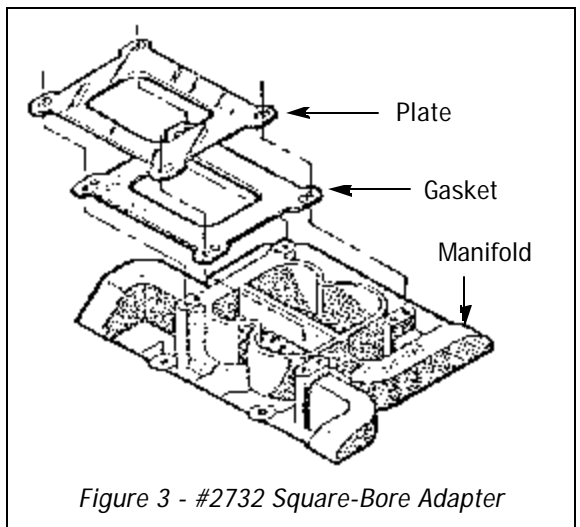

Figure 3 - #2732 Square-Bore Adapter
1. When using an Edelbrock Performer Series or Thunder Series carburetor, Square-Bore Adapter #2732 is required (See Figure 3).